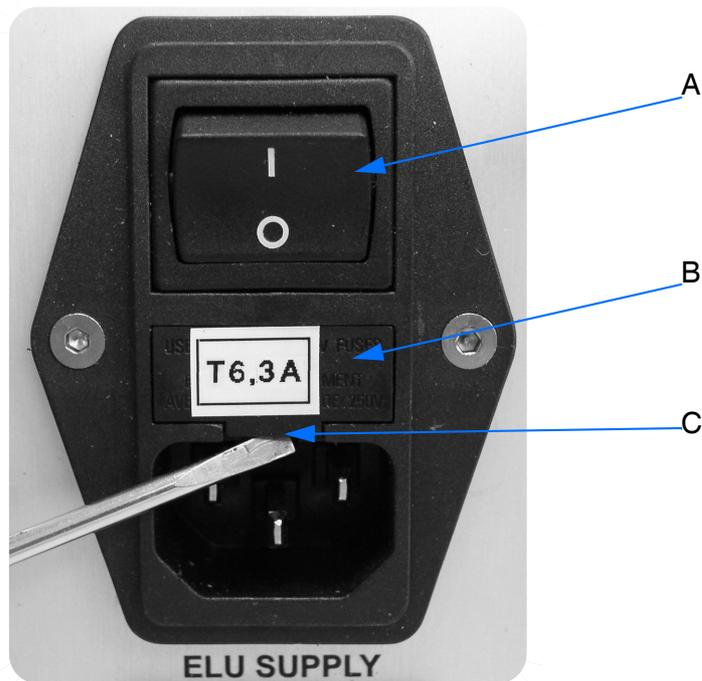

Figure 37: Fuse block
The main fuses for the spectrometer are located below the main power supply switch of the spectrometer (A in figure 37). All fuses comply with IEC 60127-2.
- 1 Switch off the spectrometer by turning the main power switch (A in figure 37) into the OFF position.